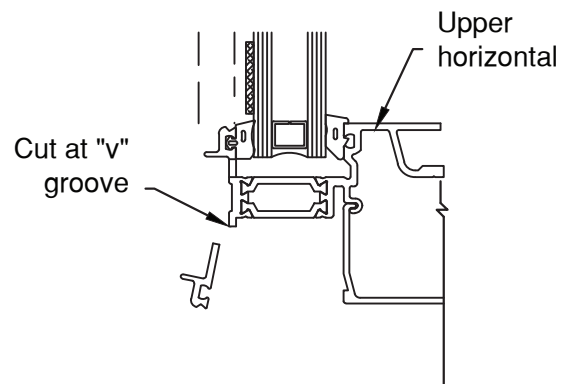

Figure 34
- D.3 Remove lower section of upper horizontal as shown in **FIGURES 34**.